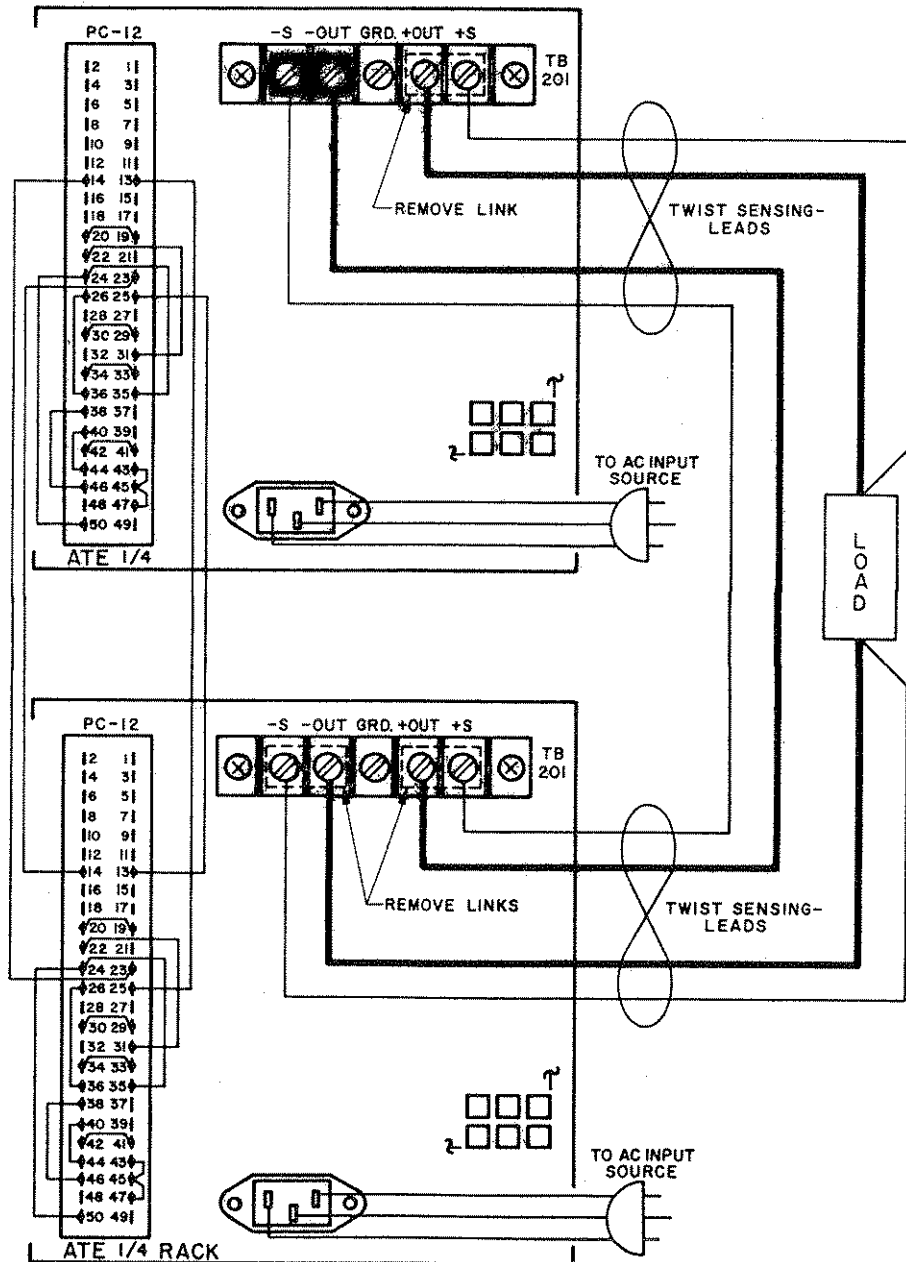

FIG. 3-20 AUTOMATIC SERIES CONNECTION
- 3) Use error-sensing, as shown in the diagram (See FIG. 3-20), to compensate for load-wire drops.
- 3) Make all load connections as shown in the diagram (refer to FIG. 3-20).